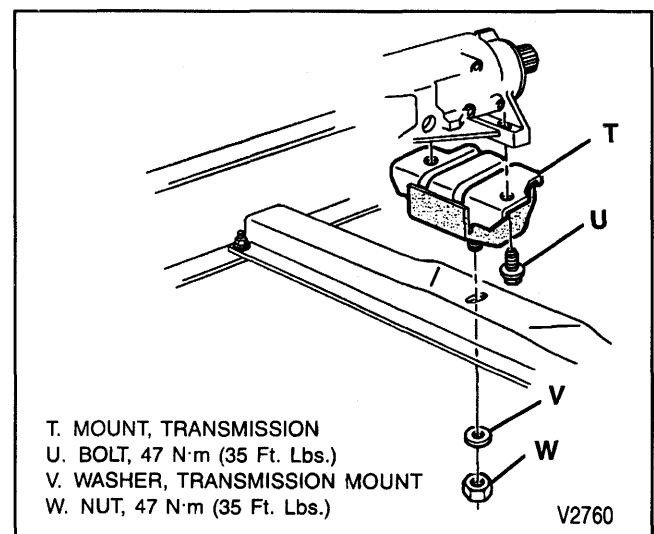

Figure 53—Rear Engine Mounting
Remove or Disconnect (Figure 53)
Install or Connect (Figure 53)
- Fasteners to specifications. (Figure 53).